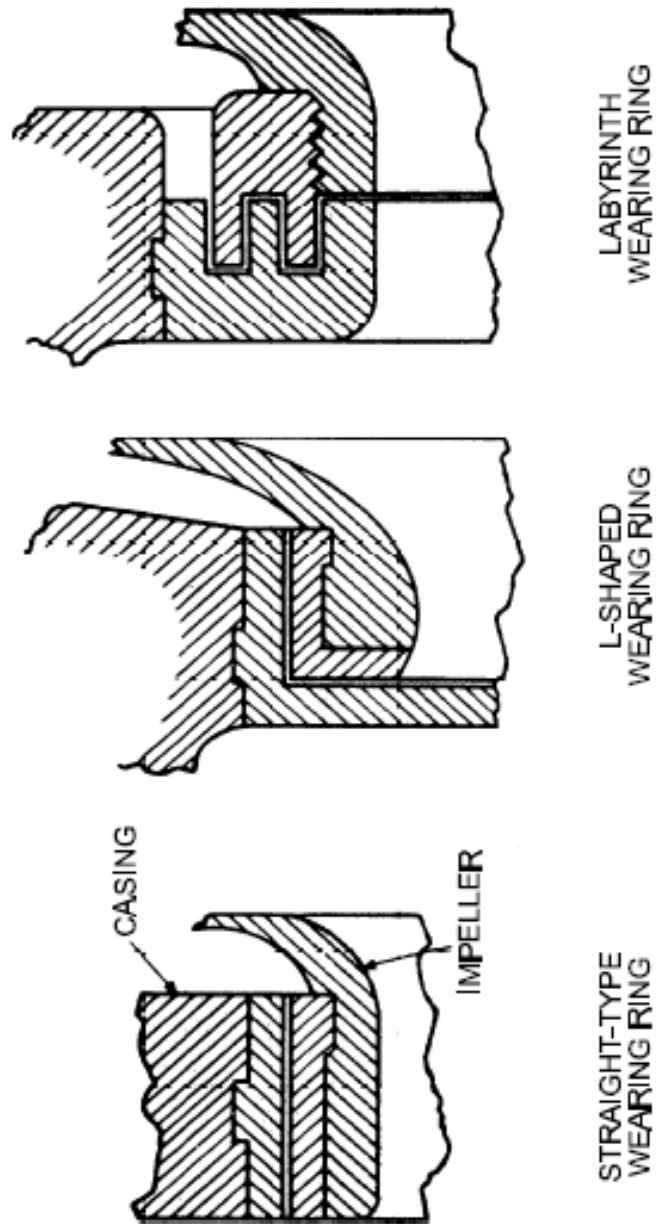

Figure 5
3.2.1.6 WEARING OR SEALING RINGS. Each year, inspect the wearing or sealing rings that seal the discharge water from suction water in rotating pumps. These are not perfect seals and do allow some leakage. Do not allow this leakage to become excessive because of worn rings, or the pump efficiency will be impaired. Three types of wearing rings are shown in Figure 5.